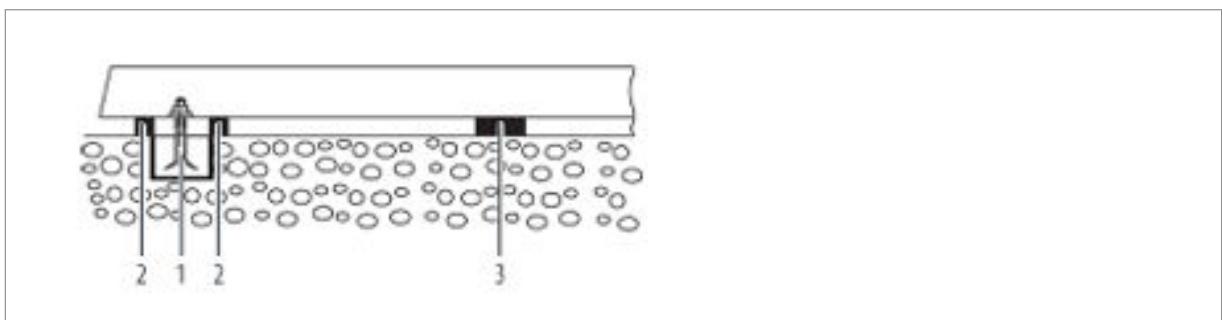

Fig. 14: Placing the pump assembly on the foundation
3. → Hook the foundation bolts (no. 1 in Fig. 14) into the base plate fastening holes from below.
5. ➔ Sink the foundation bolts (No. 1 in Fig. 14) into the prepared anchor holes.
- Place one steel fixture (No. 2 in Fig. 14) to the left and right of each foundation bolt (No. 1 in Fig. 14) respectively
- If the distance from the anchor holes is greater than 750 mm, locate additional steel fixtures (No. 3 in Fig. 14) centrally on either side of the base plate